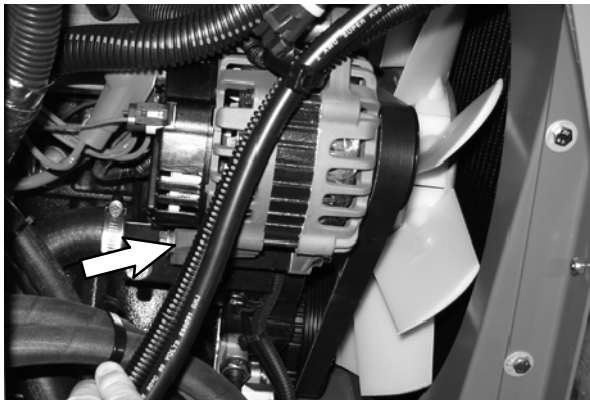

FIG. 10
1. Start the machine and turn the steering wheel completely to the left and then to the right. Inspect the portion of the hydraulic propel hose near the alternator. The hose must not touch or be rubbing against the alternator, alternator bracket, or hardware when the steering wheel is turned in either direction. Proceed to Step 2 if the hoses are touching or rubbing against any part of the alternator. Proceed to Step 6 if the hoses are not rubbing against or touching the alternator. Refer to Fig. 10.